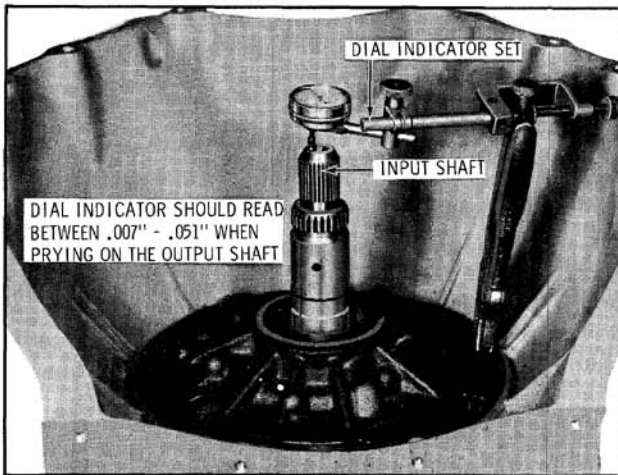

Fig. 6-516 Oil Pump End Play Check
- a. Position a dial indicator on the end of the input shaft. (Fig. 6-516)